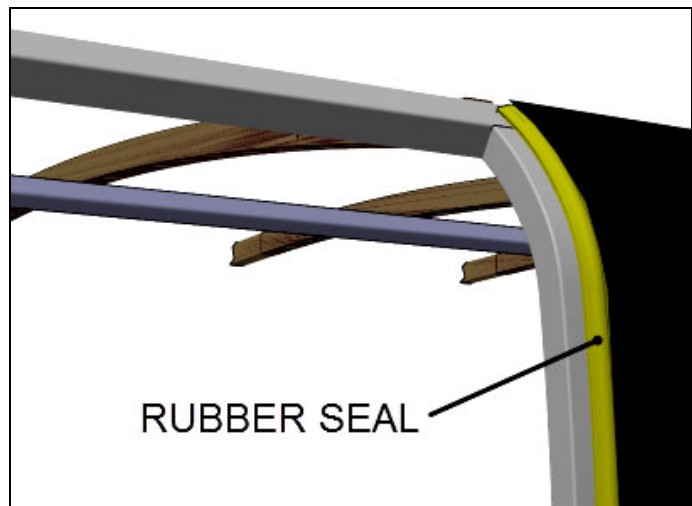

FIGURE 2
5. The vertical rubber seal found on the L.H. and R.H. side vertical members (FIGURE 2) should be left in place if in good condition. Replace damaged vertical rubber seal if applicable.